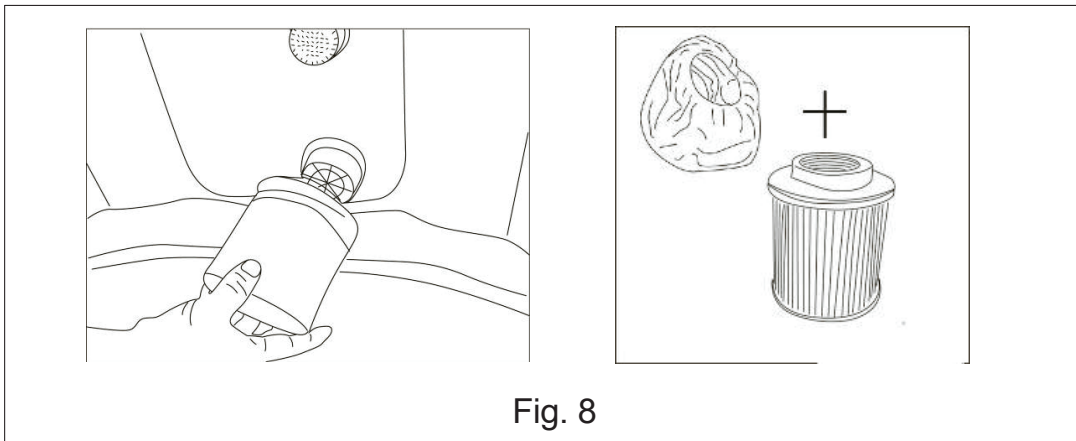

Fig. 8
- Step8:** Screw the filter cartridge onto the two water inlets (there are two inlets on the spa wall) on the spa wall by turning it clockwise (Fig. 8).